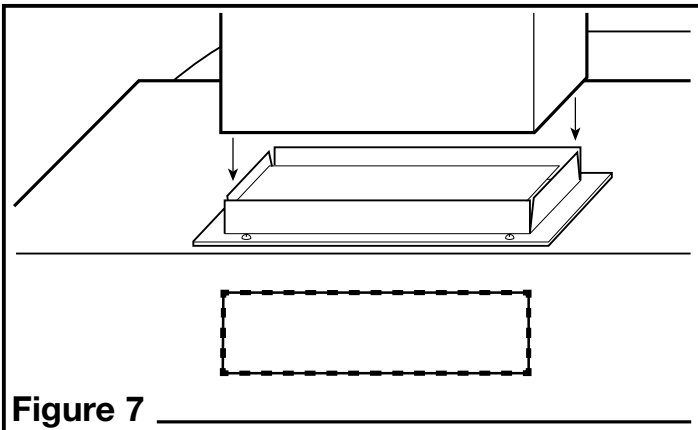

Figure 7
1. Connect the ducting to the hood's duct collar and damper. Secure in place using tape to seal all joints (Figure 7).